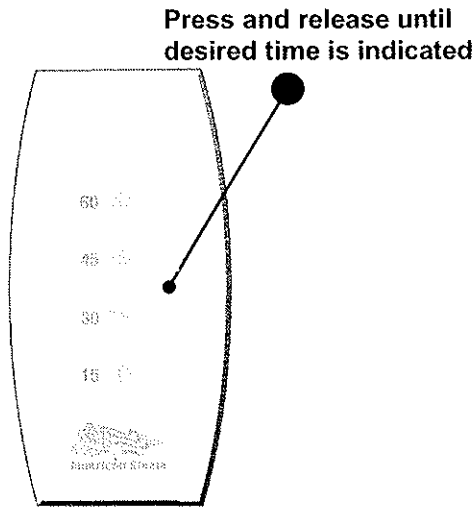

Figure 13
2. **Changing session time.** Press "STEAM" button again and repeat until your desired time session lights up. (See Figure 13.)